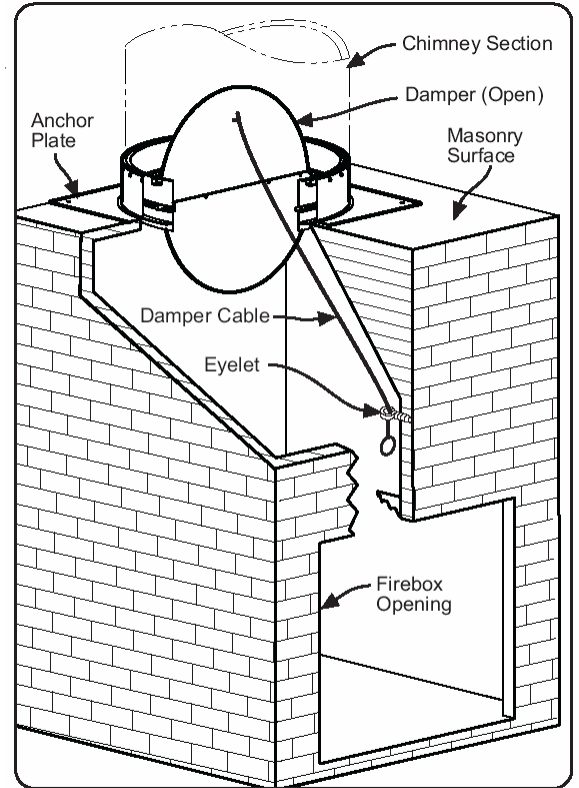

Figure 1.
1. Install Anchor Plate with Damper per standard Anchor Plate installation instructions. Ensure damper is free of obstructions and is permitted to close and open freely. See Figure 1. NOTE: Reference Selkirk Selkirk Chimney Systems (SCS) instruction sheet S-4 when installing an APD with model UT/GT and the UTL/GTL (main) installation instructions when installing a large diameter (16" and larger diameter) APD.
2. Using Eyelet, route Damper Cable to desired location in firebox. Mount Eyelet by pre-drilling a 3/16" pilot hole, then screw Eyelet into the hole. Once mounted in place, thread Damper Cable through Eyelet opening. See Figures 1 & 2.